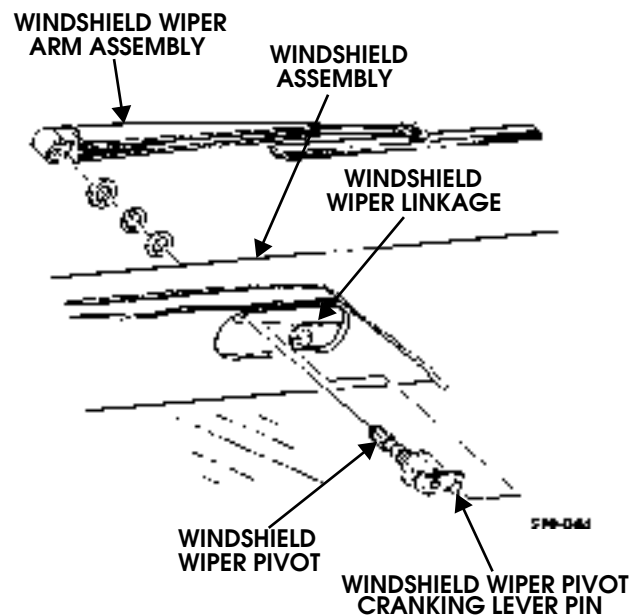

Figure 10-110: Windshield Wiper Pivot Replacement
3. Remove windshield wiper linkage from windshield wiper pivot cranking lever pin (Figure 10-110).
1. Secure windshield wiper pivot to windshield assembly with rubber washer, washer and nut (Figure 10-110).